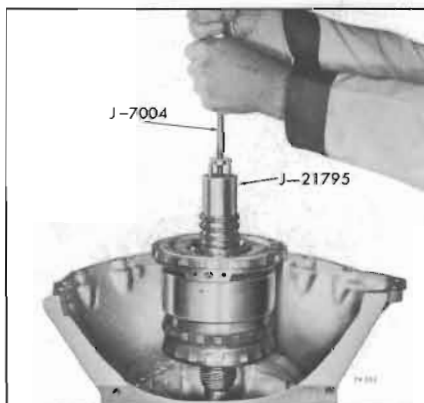

Figure 74-553
15. Remove entire gear unit assembly by lifting with J-21795 with J-7004 Slide Hammer. See Figure 74-553.